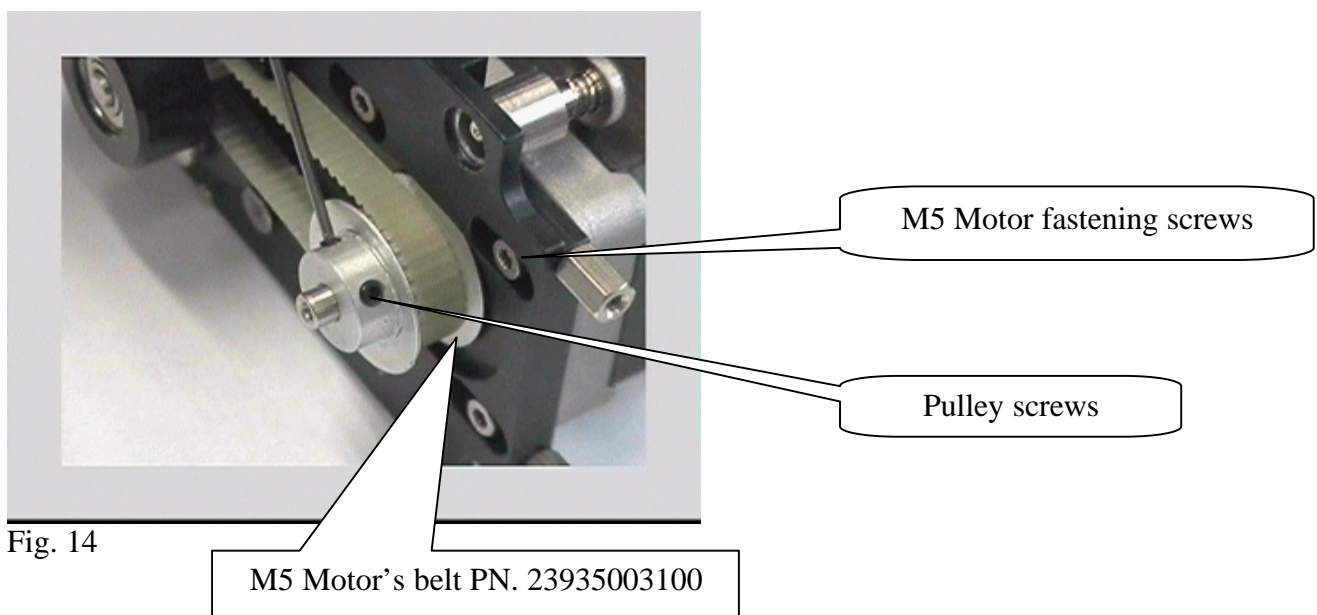

Fig. 14
10. Remove the motor fastening screws and loosen its pulley screws (Fig.14).
12. Lift the pulley to approximately 0.5mm from its upper limit and tighten its screws (Fig.14).